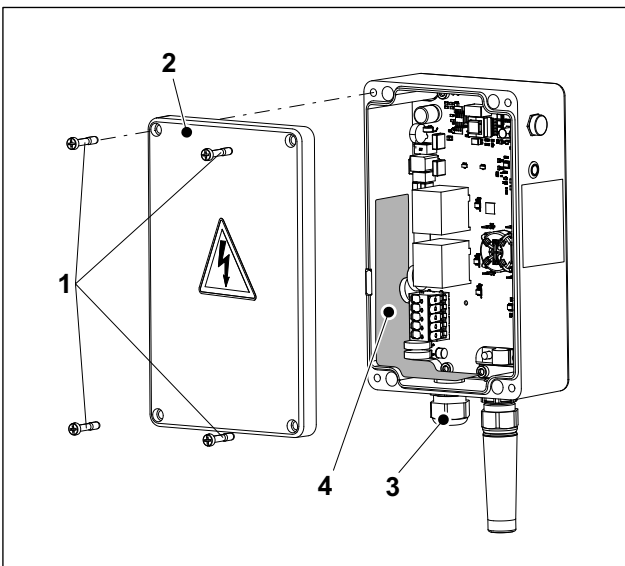

Fig. 4 Wallbox basicEVO, open electronics housing
1. Remove the four screws (Fig. 4/1) and take off the cover of the electronics housing (Fig. 4/2).
2. Screw the cable gland ESKV25 (enclosed accessories) with the respective gasket EADR25 (enclosed accessories) into the electronics housing (Fig. 4/3) and tighten (approx. 8 Nm).
5. Follow the instructions on the sticker (Fig. 4/4) and then pierce the sticker on the cable entry.
9. Replace the lid of the electronics housing (Fig. 4/2) and tighten the four screws (2.5 Nm).